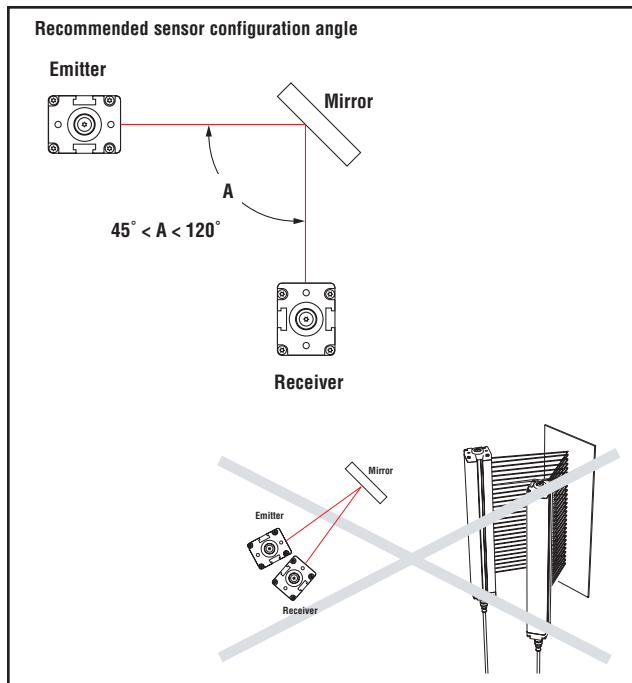

Figure 3-7. Never use EZ-SCREEN sensors in a retroreflective mode.
Do not install emitters and receivers in “retroreflective” mode, with less than a 45° angle of incidence, as shown in Figure 3-7.
If mirrors are used, the difference between the angle of incidence from the emitter to the mirror and from the mirror to the receiver must be between 45° and 120° (see Figure 3-7). If placed at a sharper angle, as shown in the example, an object in the light screen may deflect beam(s) to the receiver, preventing the object from being detected (i.e., “false proxing”). Angles greater than 120° result in difficult alignment and possible optical short circuits.
**Center mounting brackets** must be used with longer sensors, whenever the sensors are subject to shock or vibration. In such situations, the sensors are designed to be mounted with up to 900 mm unsupported distance (between brackets). Sensors longer than 900 mm are supplied with a center bracket to be used as needed with the standard end-cap brackets (see Figure 3-7).